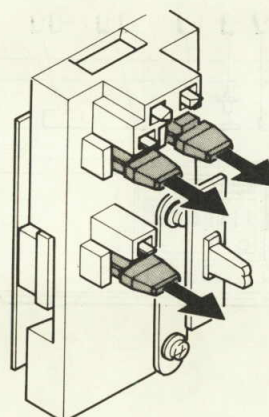

Fig. 10
1) Take off each button of MS, DSL and REC MUTE. (See figure 10)